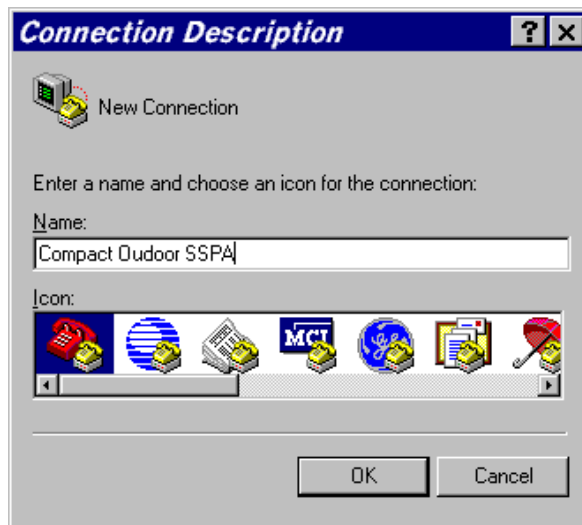

Figure 5-6: Connection Description window
2. At the prompted window, type the name of your serial connection (“Compact Outdoor SSPA” for example), and then click “OK.” See **Figure 5-6**.